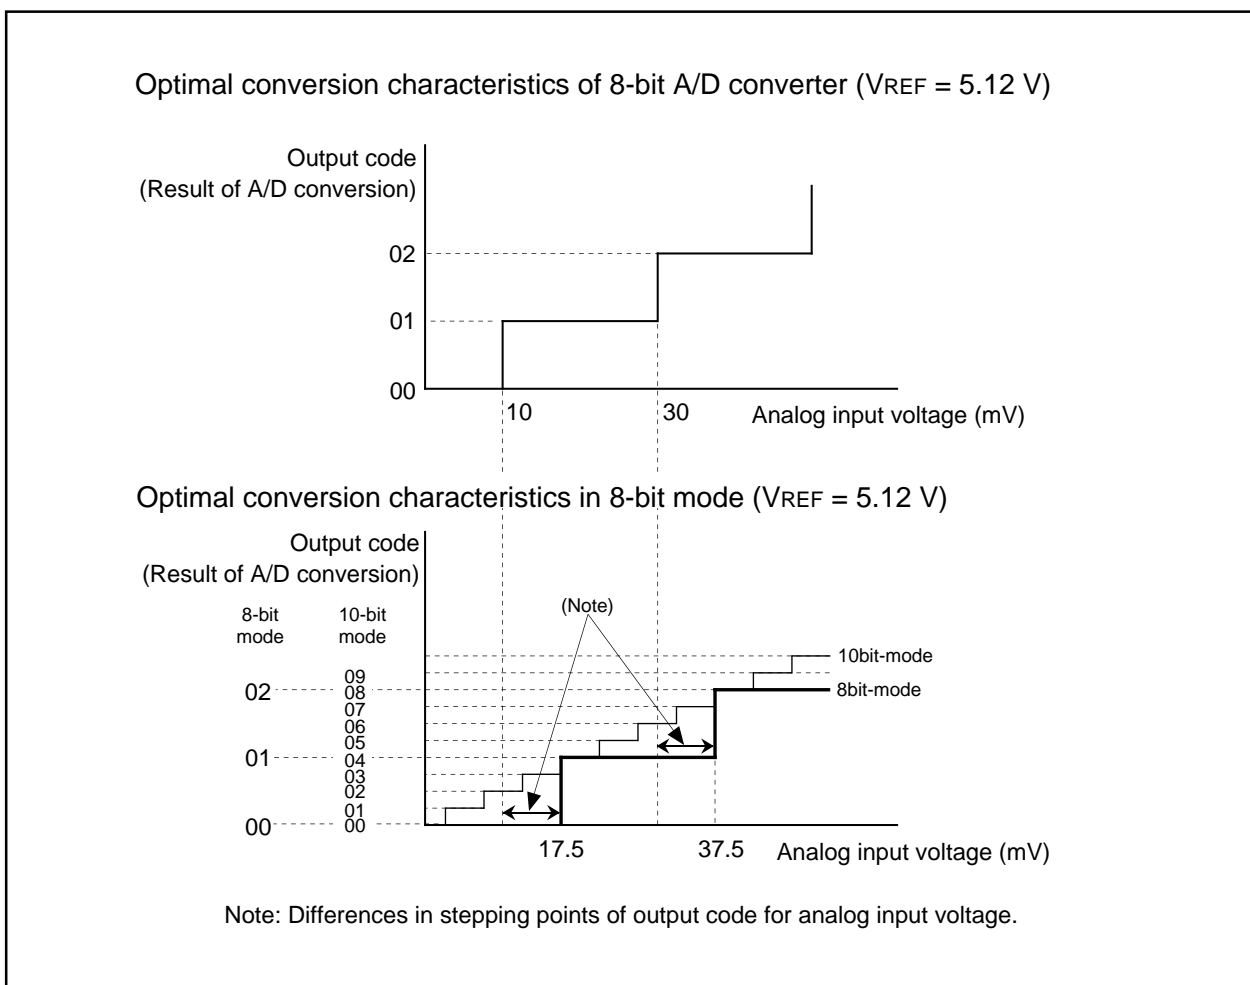

Figure 2.9.19. The level conversion characteristics of 8-bit mode and 8-bit A/D converter
(1) In 8-bit mode, 8 higher-order bits of the 10-bit successive comparison register becomes A/D conversion result. Hence, if compared to a result obtained by using an 8-bit A/D converter, the voltage compared is different by $3 V_{REF}/2048$ (see what are underscored in Table 2.9.10), and differences in stepping points of output codes occur as shown in Figure 2.9.19.